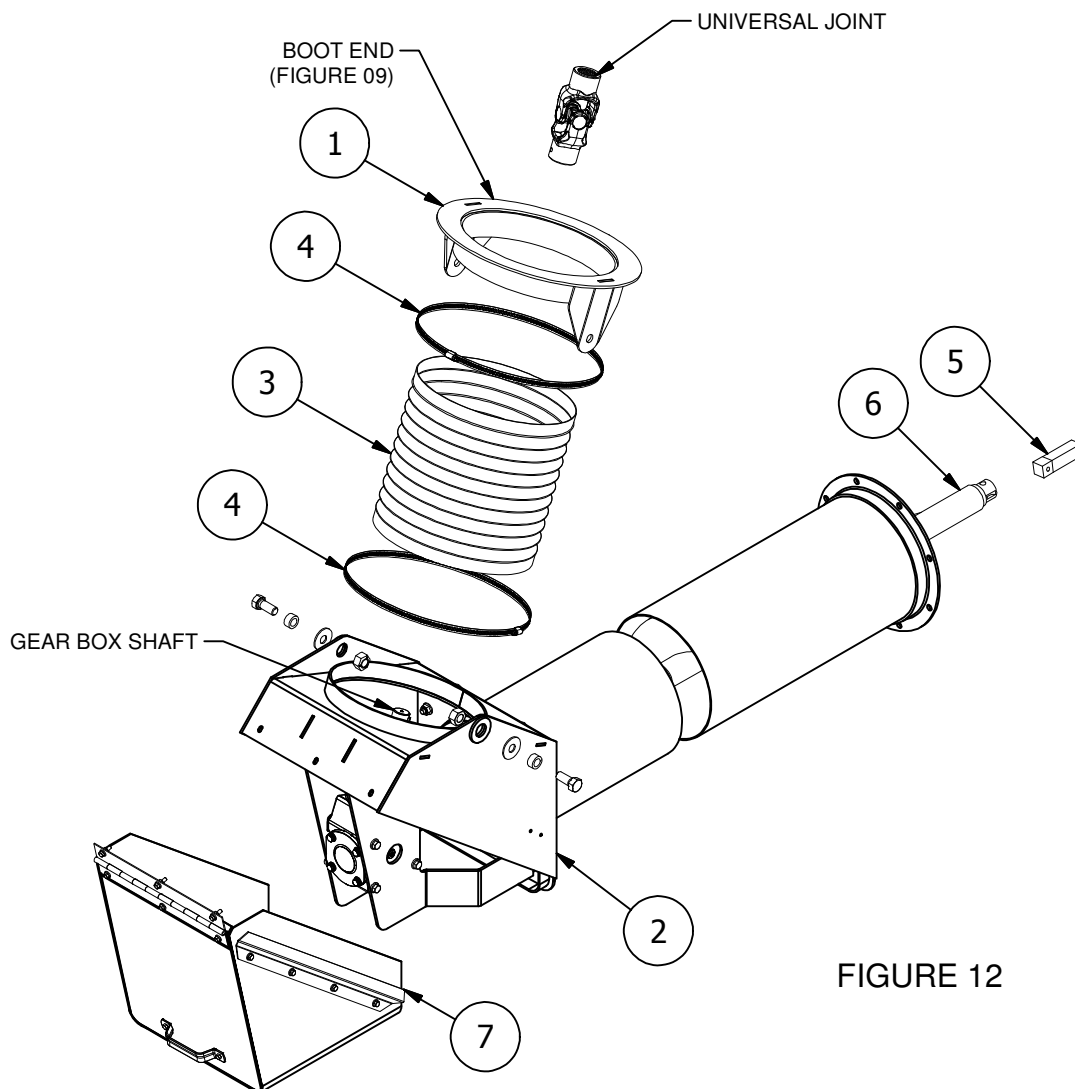

FIGURE 12
7. Assemble **FEED TUBE ASSEMBLY** and **HOPPER ASSEMBLY** (**FIGURES 12 and 13**) with eight  $\frac{3}{8}$ " x  $1\frac{1}{4}$ " whiz bolt